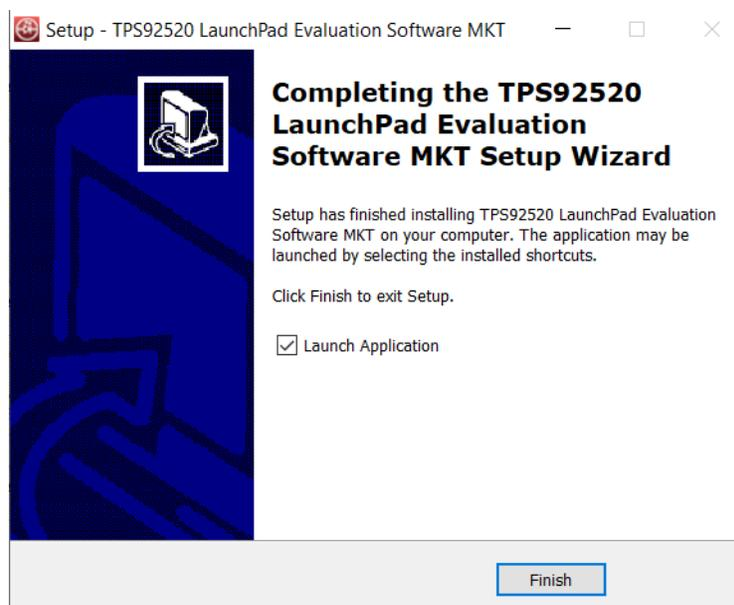

Figure 25. Setup Screen 13
16. Figure 25 shows the completion notification of the TPS92520-Q1 Evaluation Software. Click **Finish**.